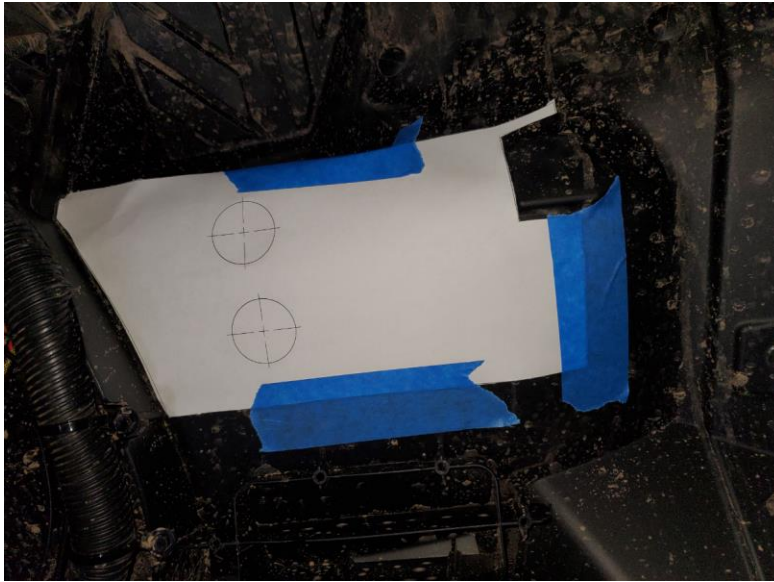

Figure 13
34. Use the 1 ¼" hole saw to drill out the radiator hose template as shown in **Figure 13**.